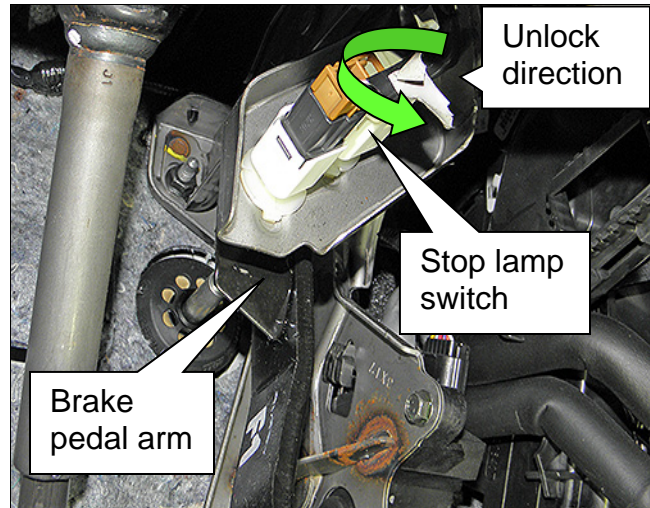

Figure 10
1. Turn the stop lamp switch (right side switch, Figure 10) 45° counterclockwise to unlock.